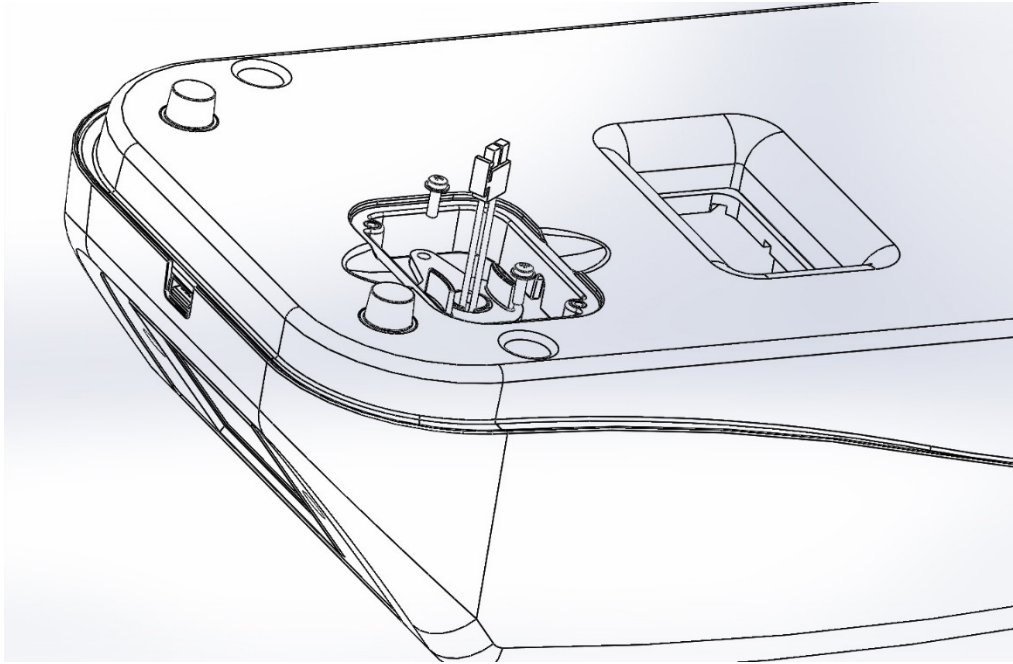

Fig 2
4. Detach the electrical connector (**fig 2**).